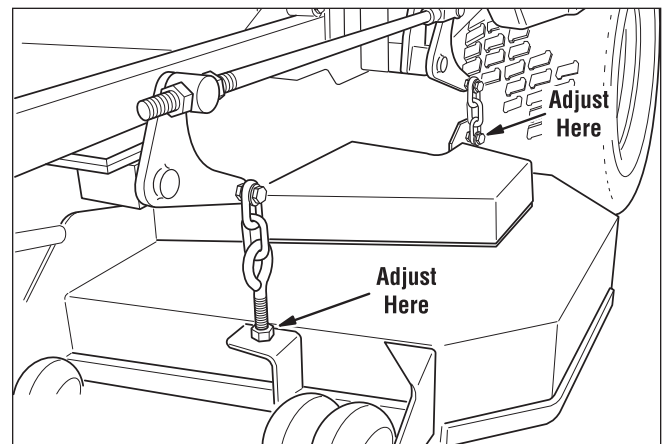

Figure 41. Hanger Chain Adjustment
7. Adjust the front eyebolts until the chains are tight and the deck is still resting on the 2 x 4's. Tighten jam nuts. See Figure 41.
8. Loosen the nuts and allow the rear of the deck to rest on the 2 x 4's and 1/4" spacers. Slide the chains in the slots until the chains are tight and tighten the nuts. See Figure 41.